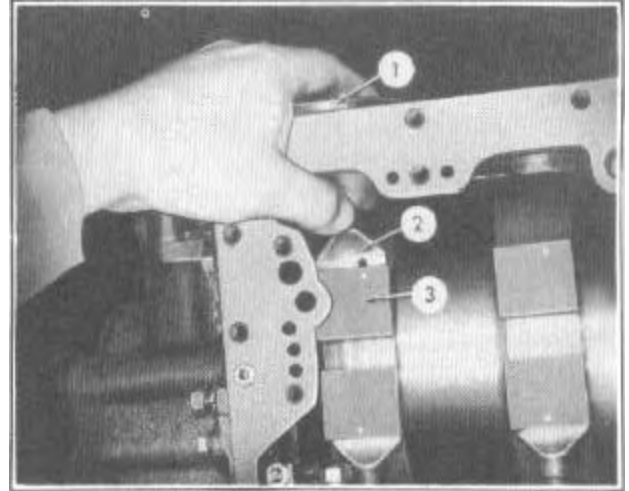

FIGURE 84
3. Both inner pistons are installed in the same manner. Hold the piston assembly with the offset notch of the strut to the front of case and insert the assembly in the bore of case. Align the notch in the strut (2), Figure 84, with the pin in the brake band shoe (3) and push the assembly into the bore.